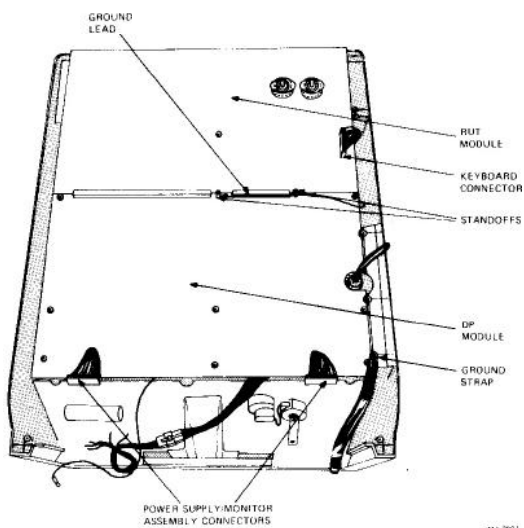

Figure 3-6 Removing and Replacing the RUT and DP Modules
3.6 REMOVING AND REPLACING THE RUT AND DP MODULES (Figure 3-6)
4. If the terminal is equipped with anti-static ground straps, remove the 11/32 nut that secures the ground strap nearest the power supply/monitor assembly (Figure 3-6) and remove the ground strap. *Replace this nut before proceeding to the next step.*